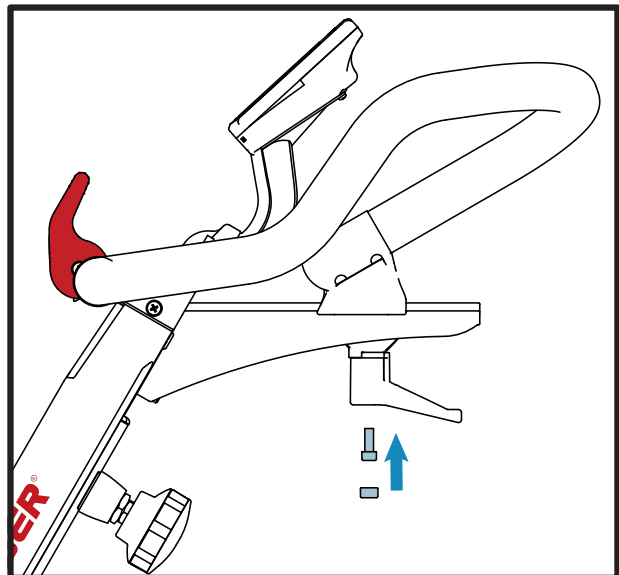

Figure 18. Install L-Handle and Secure with Screw and Washer
- c) Place the L-handle onto the handle stud. The L-handle should point away from the cycle. Install the screw and washer to secure the assembly, refer to Figure 18.